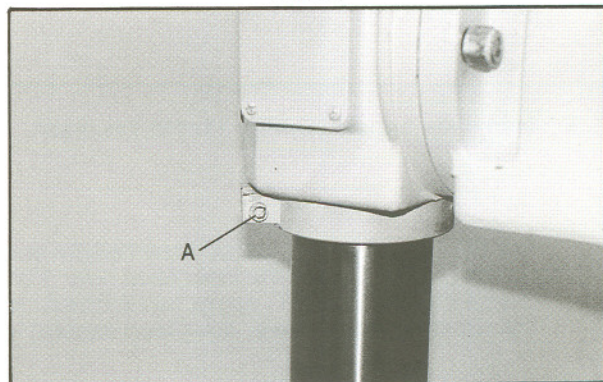

Fig. 6
2. Loosen the hex socket cap screw (A, Fig. 6) on the upper rack ring.
5. The rack assembly is at its full height when the top rack ring is just below the head assembly (as illustrated in Fig. 6).